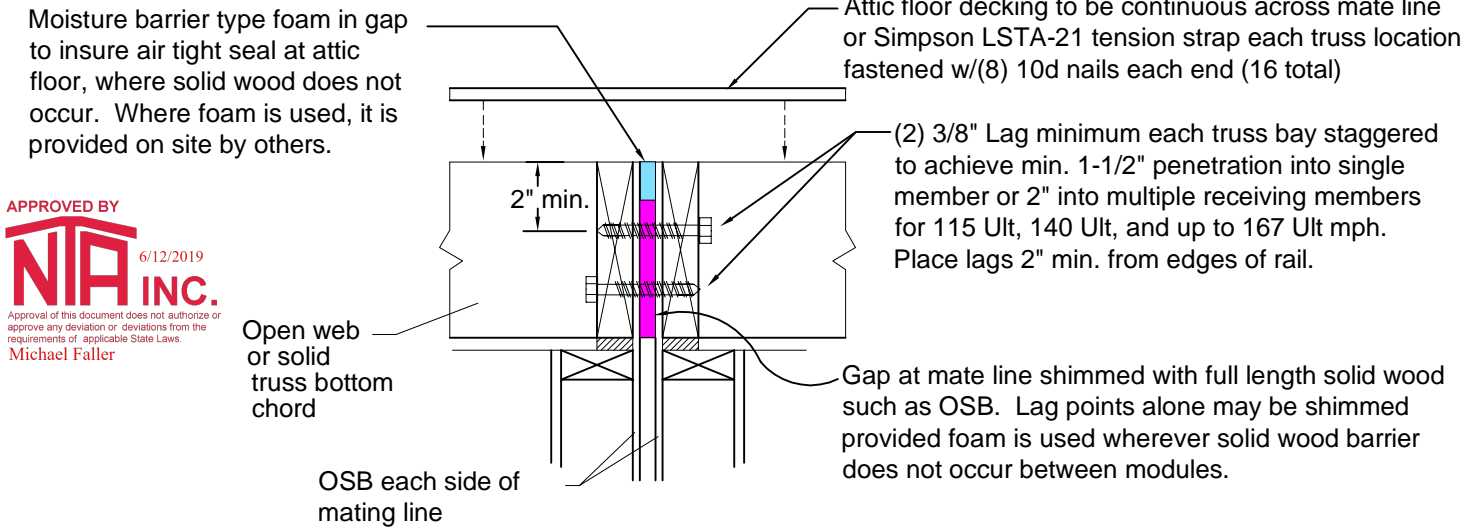

Fig. 5.12.1 - Attic Floor at Mate Line
See Fig. 5-12.1 & Fig. 5.12.2
1. Rated floor sheathing must be installed in such a manner that it is continuous across the mate line of the home and fastened using at least (9) 0.131 nails and 1" penetration each side of mate line into each truss bottom chord. (Or install tension straps at each roof truss location per Fig. 5.12.1 and Fig. 5.12.2. (Decking fastening, other than mate line, is per IRC fastening schedule.)